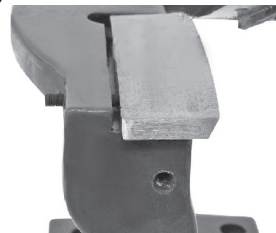

Figure 8
2. Loosen the bolt #10 securing the Lower Blade Clamp #9 (Figure 8) at the left front of the tool.